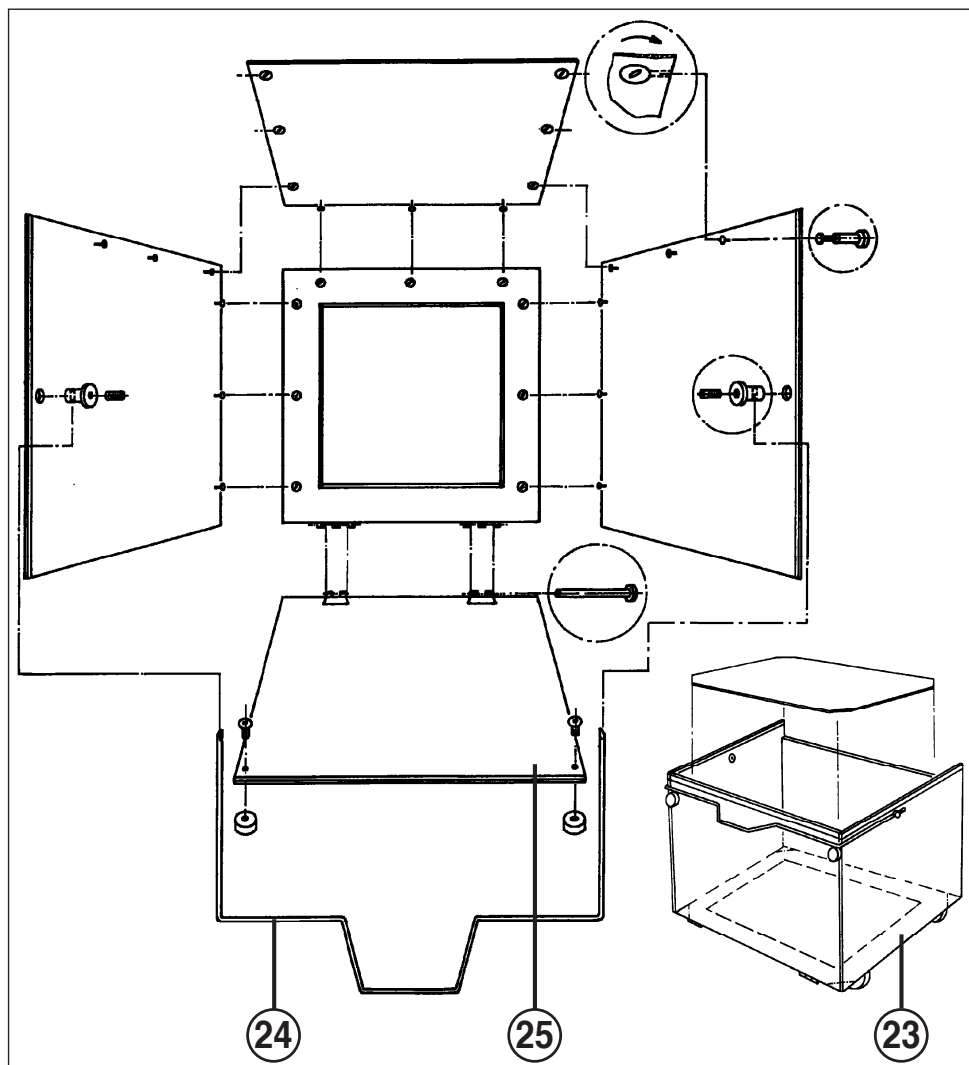

Fig. 4
- 23 = Shredder bin (fig. 4)
- 24 = Shredder bin stirrup (fig. 4)
- 25 = Shredder bin front panel (fig. 4)
INSTALLING THE SHREDDER BIN (23) (Fig. 4):